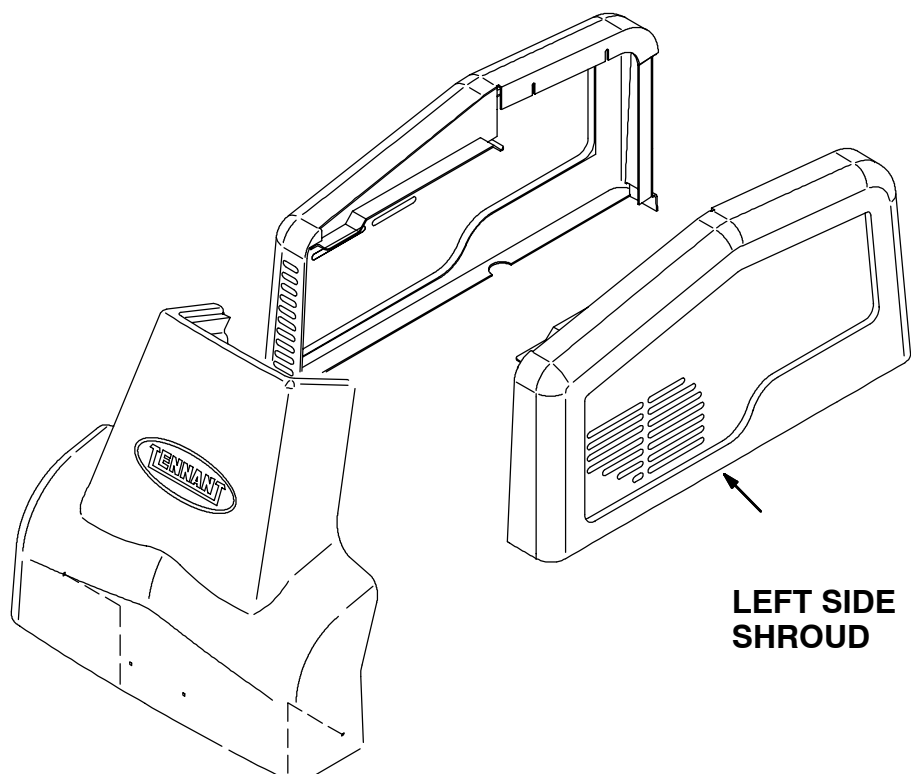

FIG. 1 - SHROUD ASSEMBLY
(Refer to FIG. 1 thru 9)
1. Remove and set aside the shroud from the left side of the machine. (Refer to FIG. 1)